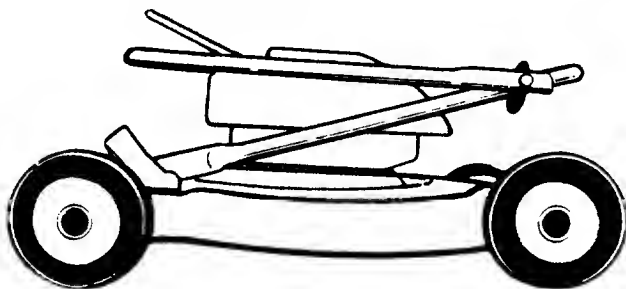

FIGURE 11.
- You can fold your mower's handle for storage as shown in figure 11. Remove the starter rope from the rope guide. Loosen the two hand knobs on the sides of the handle, and let the upper handle fold down to the rear. Move the hairpin clips to the outer hole in the weld pins on the handle mounting brackets. Refer to figure 3. Spread the sides of the lower handle, and push it forward and down.